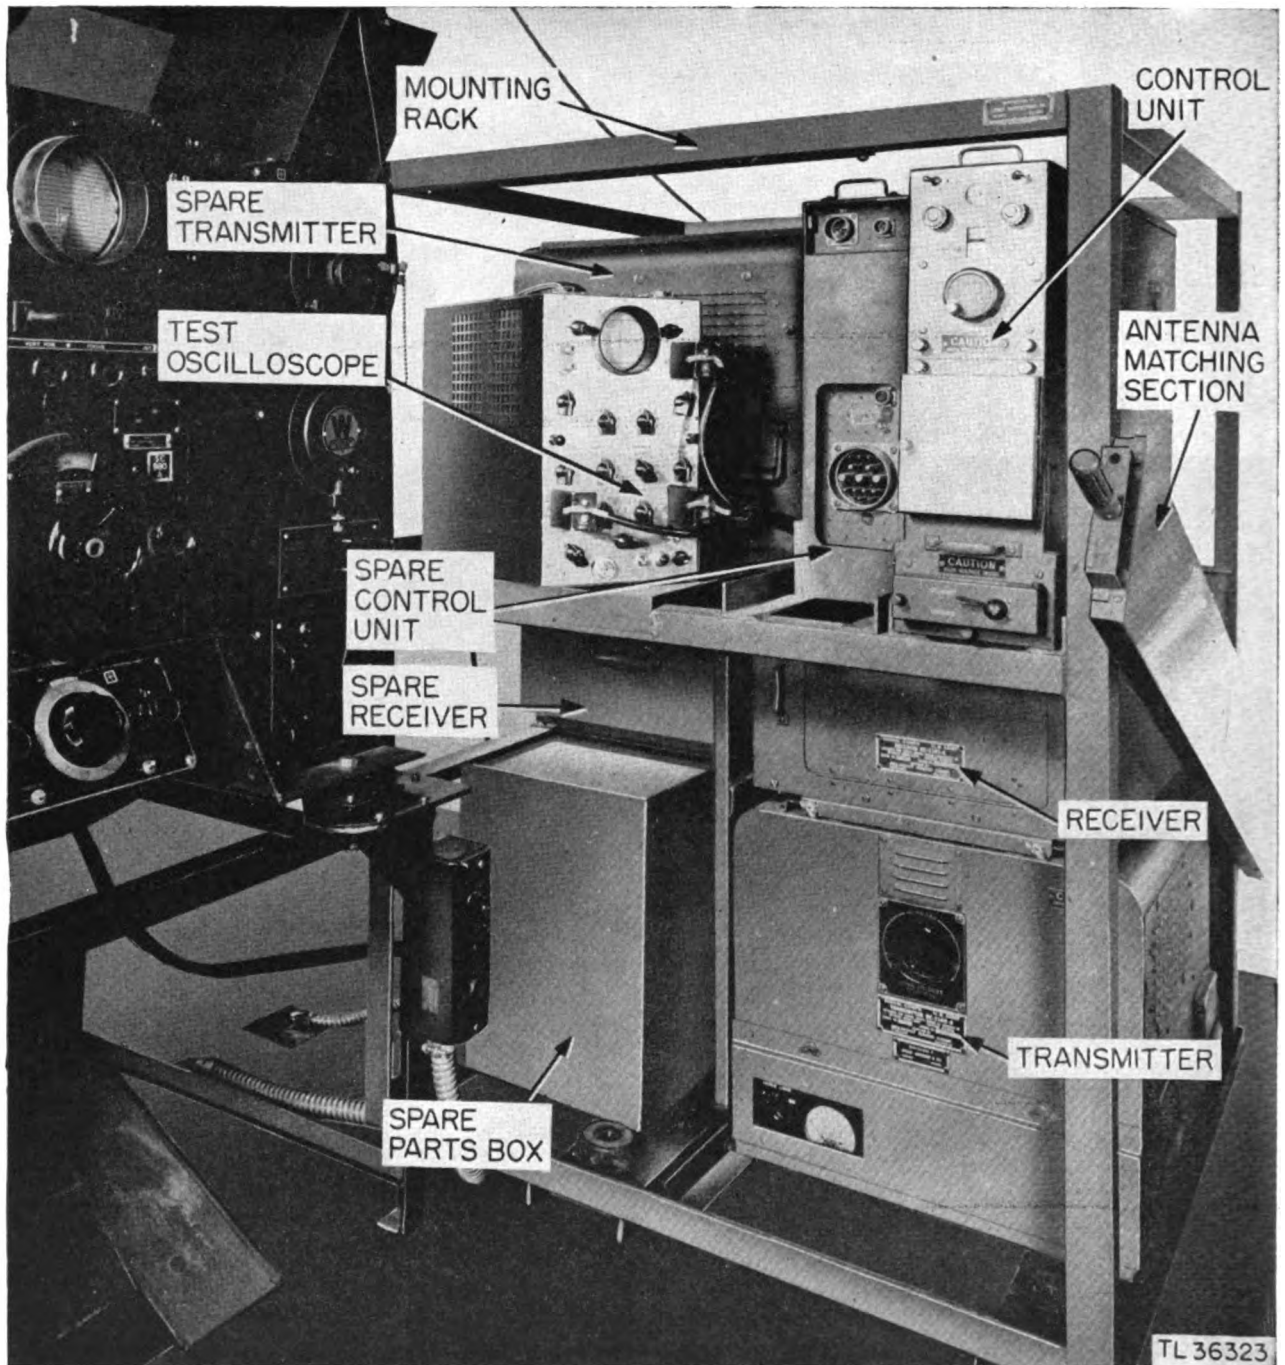

Figure 20. Radio Equipment RC-150 showing location of components.
(4) *Location* (fig. 20).
**b. REMOVAL PROCEDURE.** (1) *To remove operating wavemeter from case.* (a) Remove cables 107 and 109 from the rear of the wavemeter chassis.